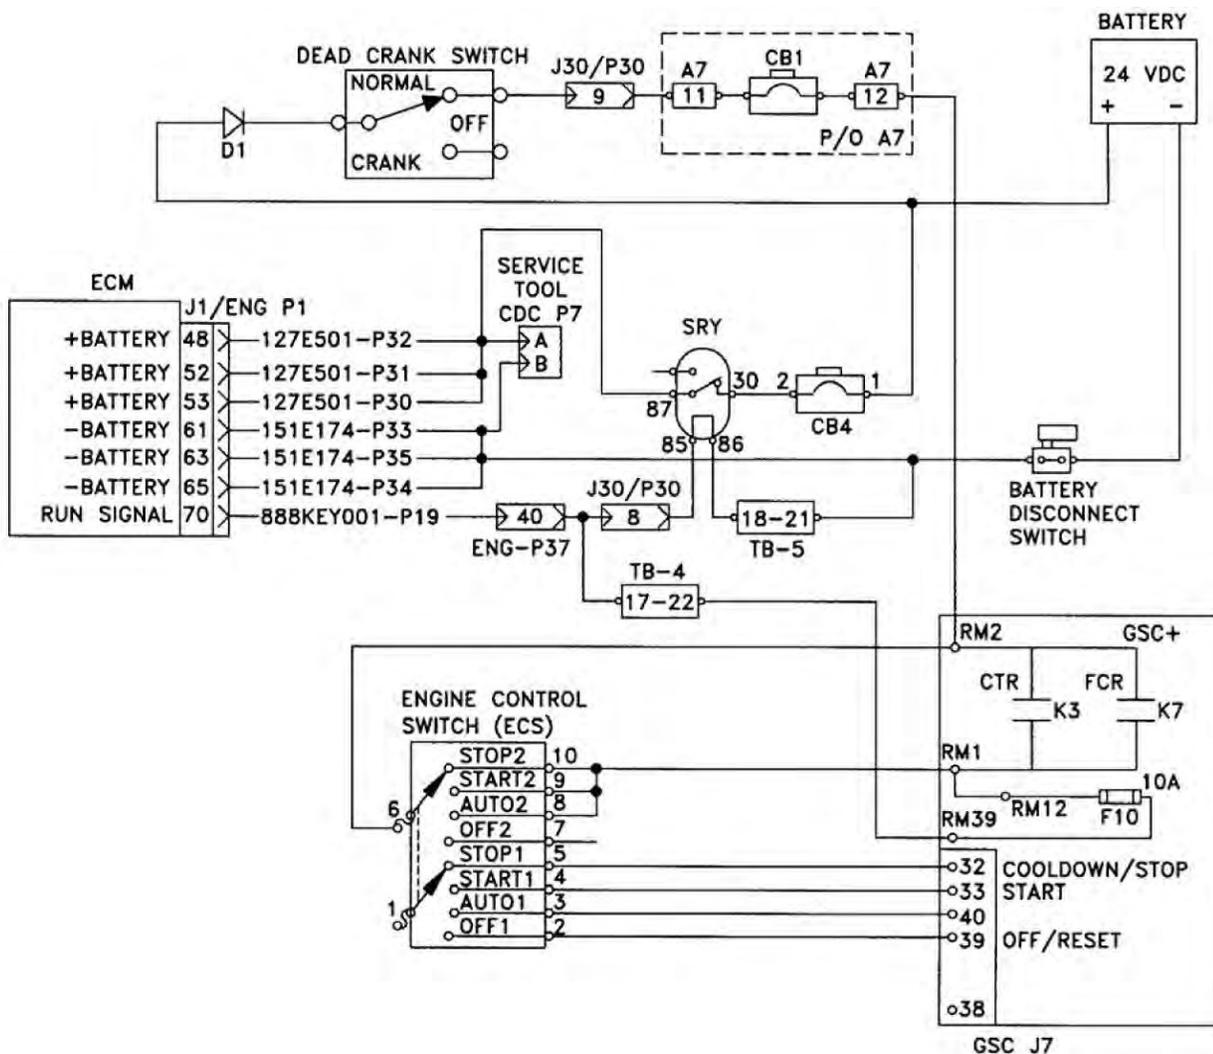

Figure 3. 24 VDC Electrical Circuits.
Use this procedure and Figure 3 to troubleshoot any suspect problems with the electrical supply to the engine Electronic Control Module (ECM). This procedure covers the following diagnostic code:
- Check the voltage between engine ground and the test points in Table 1. If voltage is not present at a test point, the problem is in the device, in the wire or in the connector that precedes the point in the circuit. Refer to Figure 3 and FO-1, Sheet 2 as required).
DEVICE (Figure 3)	TERMINAL
- b. Check the voltage between engine ground and the test points in Table 2. If voltage is not present at a test point, the problem is in the device, in the wire or in the connector that precedes the point in the circuit. Refer to Figure 3, FO-2, Sheet 2; and FO-4, Sheets 1-4.
- (1) If voltage is present on terminal 87 of the slave relay (SRY) but not present at the ECM, repair the wires between the ECM and the SRY (WP 0096; FO-3, Sheet 1).
- (2) If the voltage is not 24 ± 3 VDC at a test point, check that voltage is present at terminal 85 and terminal 30 of SRY, voltage is not present on terminal 87 of SRY. Also check that verify that the wire from terminal 86 of SRY has continuity to the -battery. If the wire from terminal 86 of the SRY has continuity to the -battery, replace SRY (WP 0053). Repair the device, connectors and/or wiring.